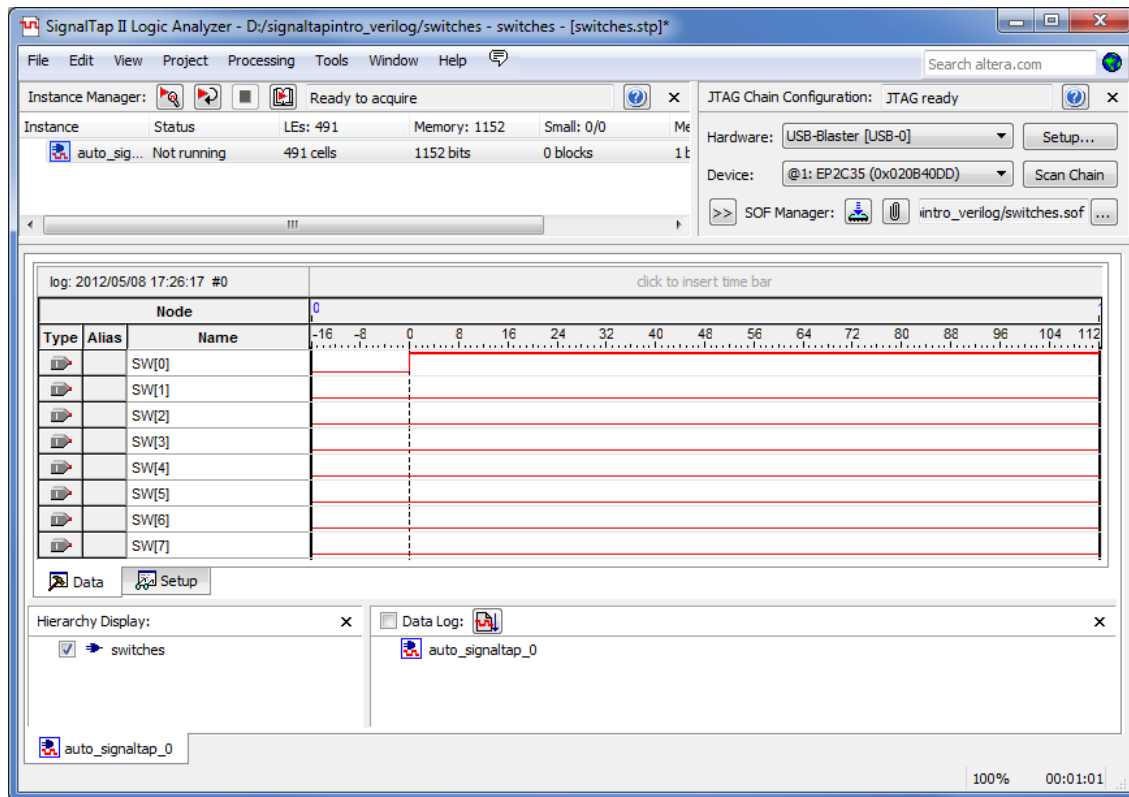

Figure 12. Graphical display of values after trigger condition is met.
3. Now, to observe the trigger feature of the Logic Analyzer, set Switch 0 on the DE-series board to high. The data window of the SignalTap II window should display the image in Figure 12. Note that this window shows the data levels of the 8 nodes being tapped before the trigger condition was met and also after. To see this, flip on any of the switches from 0-7 and then click Run Analysis again. When switch 0 is set to high again, you will see the values of the switches displayed on the SignalTap II Logic Analyzer.